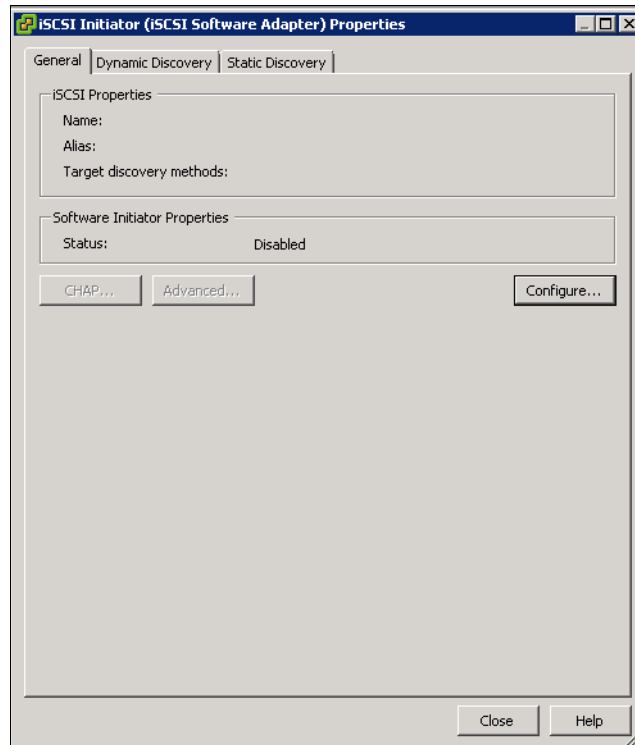

Figure 4-14 VMware: iSCSI Software Adapter Properties
8. The iSCSI Software Adapter Properties window opens. Figure 4-14 shows that the initiator is disabled by default; to change this setting, click **Configure**.